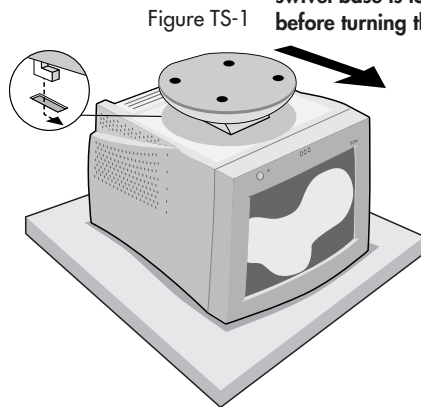

Figure TS-3
3. Slide the tilt/swivel base forward until the latch of the tilt/swivel base is secure (**Figure TS.3**).